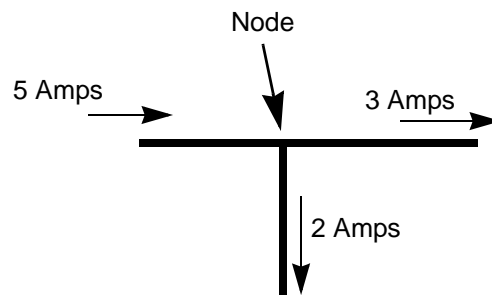

Figure 7.27
- The sum of the currents coming out of the other two wires must equal 5 amps. That could be 3 amps in one wire and 2 amps in the other or it could be 2.5 amps in each wire, but the total coming out must be the same as the current going in. See Figure 7.27.